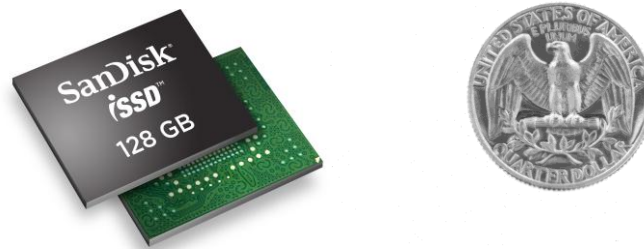

Figure 3. microSSD
- **SATA microSSD:** The SATA microSSD is completely self-contained within a single BGA package. SATA microSSD devices can be mounted directly onto a motherboard to provide a low profile of less than 1.5 mm (see Figure 3). Standardization of the signal/ball layout and use of a JEDEC standard BGA package ensures that products from different manufacturers are interchangeable.